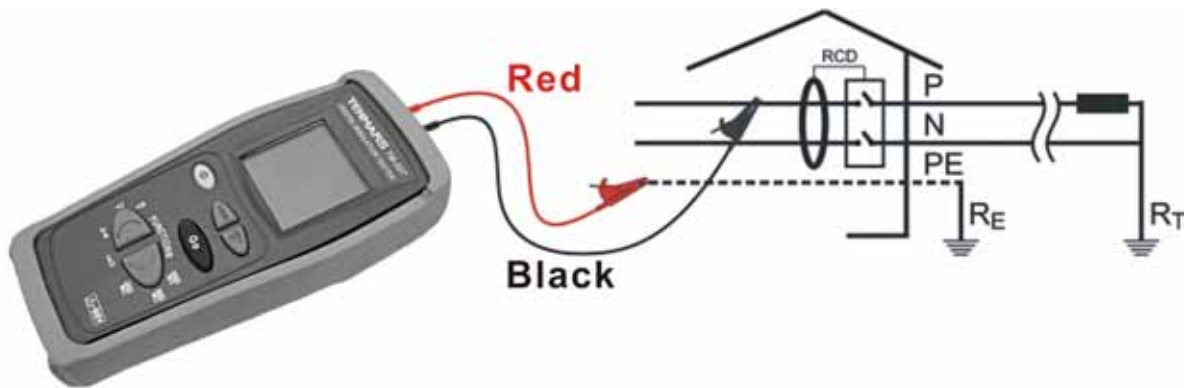

Fig. 8: Connection of the instrument's terminals during MΩ test
7. Connect the instrument's terminals to the end of the conductors on which the insulation test must be performed (see Fig. 8)